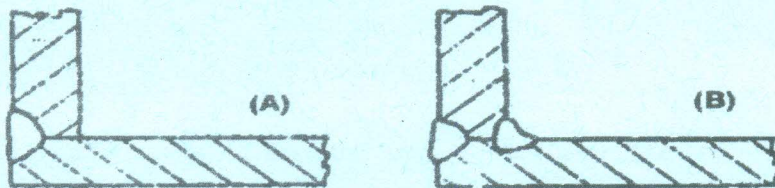

Fig. 2
4. Which one of the following weld design shown in Fig.2, is preferred and why?